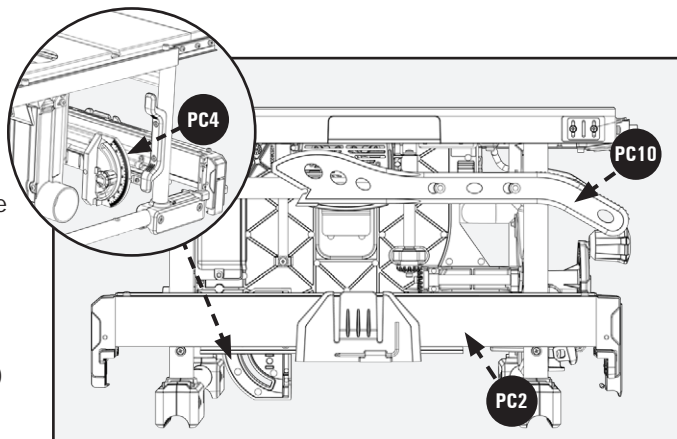

FIGURE 19
3. Detach the On-Board Wrenches **located on the Right Side of the Saw** behind blade guard storage in Figure 19 (a) by loosening and removing M8 Wing Nut.
Storage is located on the left side and right side of the Tool as shown in Figures 19 & 20.
Left Side Storage Figure 19: